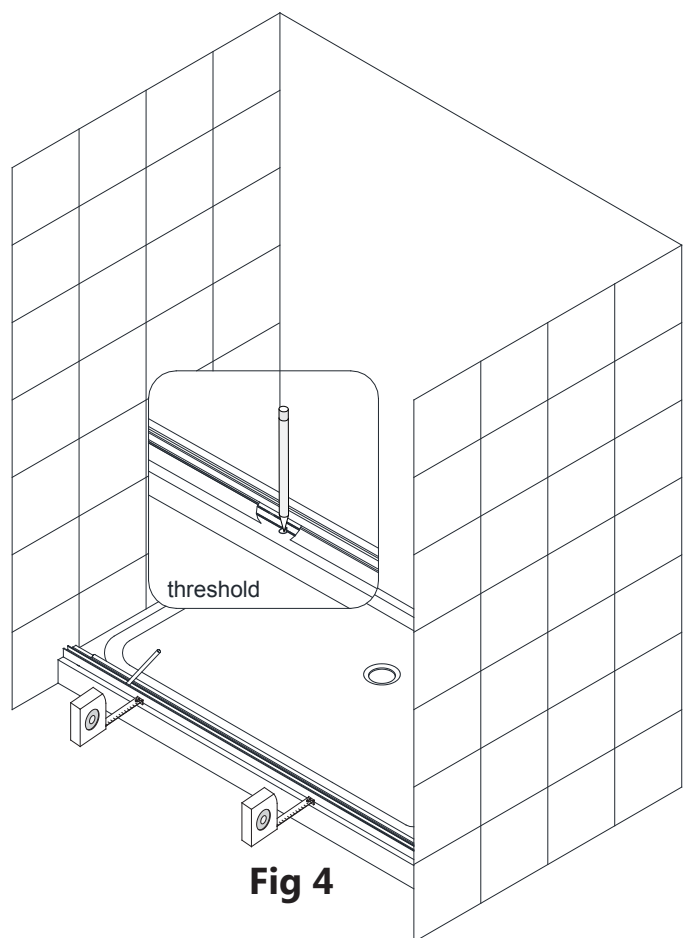

Fig 4
4. Place the **Bottom Guide Rail (#03)** onto the threshold and mark its position. Use a tape measure to keep the **Bottom Guide Rail (#03)** parallel with the outside edge of the threshold. (Fig 4)